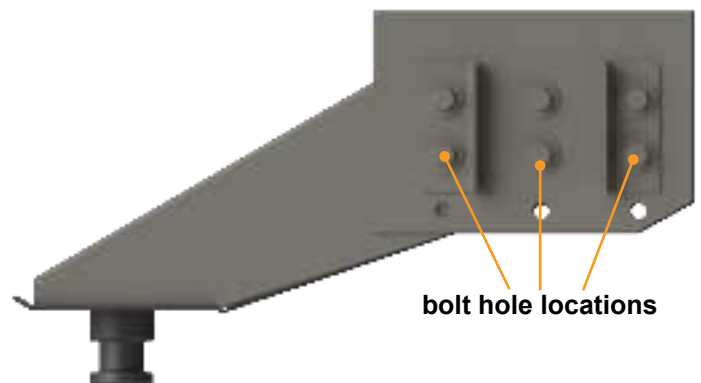

Fig.3
3. Make note of the bolt hole locations of the factory-installed pin box. The new pin box system will be mounted in the same hole settings (Fig.3).